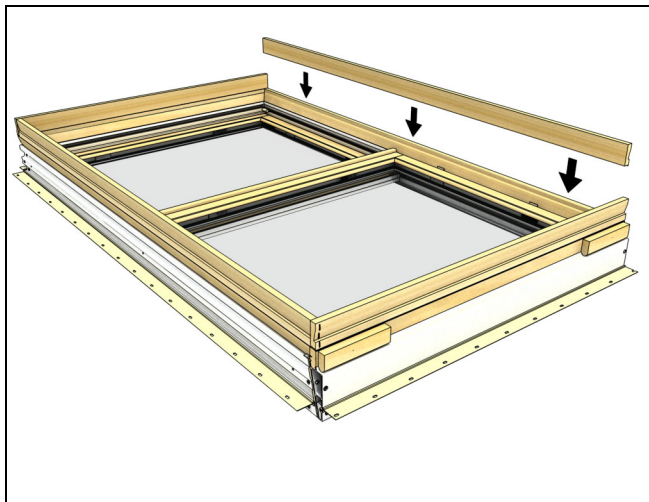

Figure 2
3. Fasten the jamb pieces to the jamb liners using the same spacing as step 2 on page 1. See Figure 2.